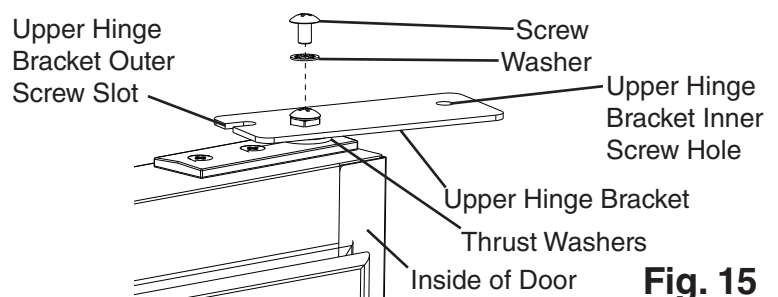

**Fig. 15**
- 11) Make sure the thrust washers are in place on the spring cartridge, then flip the upper hinge bracket over from its original position and install onto the spring cartridge in the door open position. See Fig. 15. The upper hinge bracket should be positioned as shown.